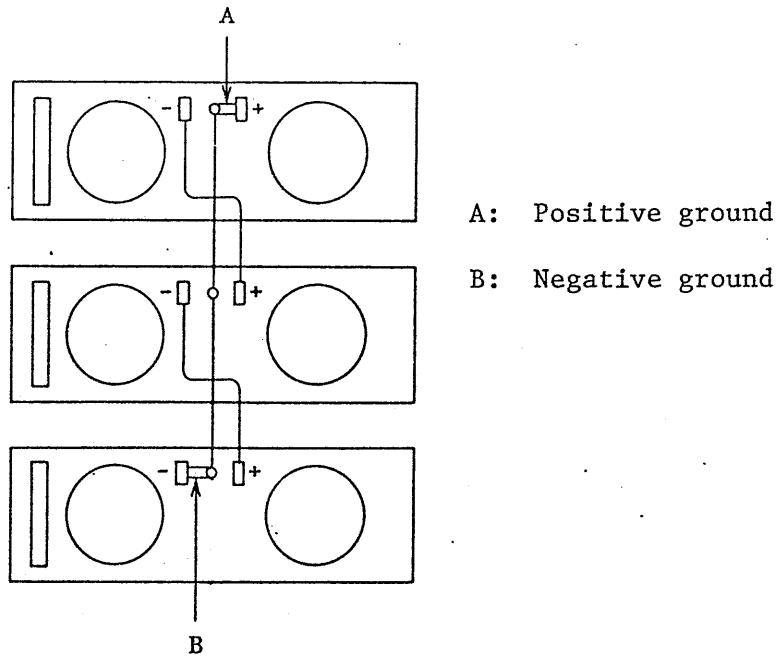

Figure 4-13. Rear output terminal connections
4. Connect the rear output terminal as shown in Figure 4-13.